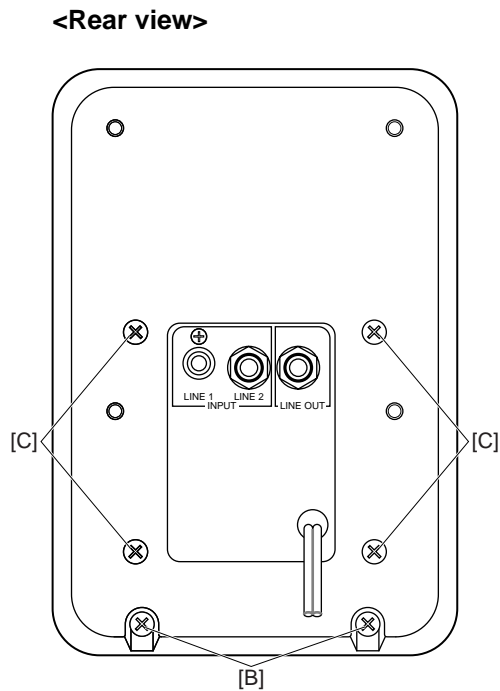

Fig.2(図2)
- 1-3 Remove the two (2) screws marked [B], then the speaker baffle can be removed. (Fig.2)
- 2-3 Remove the four (4) screws marked [C], then the rear assembly can be removed. (Fig.2)
- 1-3 [B]のネジ2本を外して、スピーカーバッフルを外します。(図2)
- 2-3 [C]のネジ4本を外して、リアAss'yを外します。(図2)